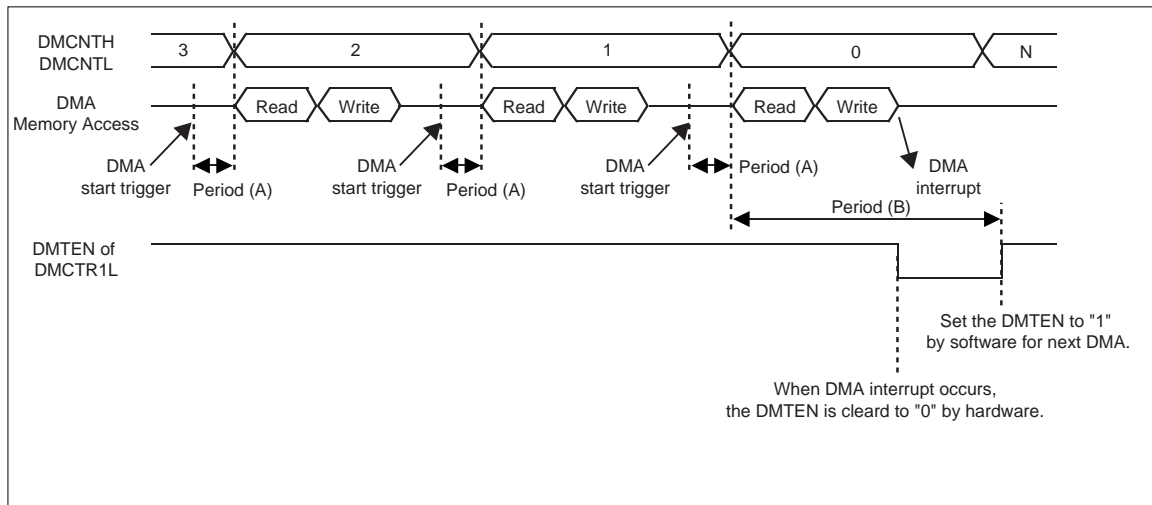

Figure:14.3.1 Example of Single Transfer
If the DMA start trigger happens during the time after DMA reads the last single data from Source Address and before the DMCTR1L.DMTEN is set to "1" by software (for example, the period (B) in the Figure:14.3.1), DMA-AddReq interrupt occurs.
If the DMA start trigger happens during the time after the DMA start trigger occurs and before DMA reads the data (not limited to the last single data) from Source Address (for example, the period (A) in the Figure:14.3.1), DMA-Error interrupt occurs.